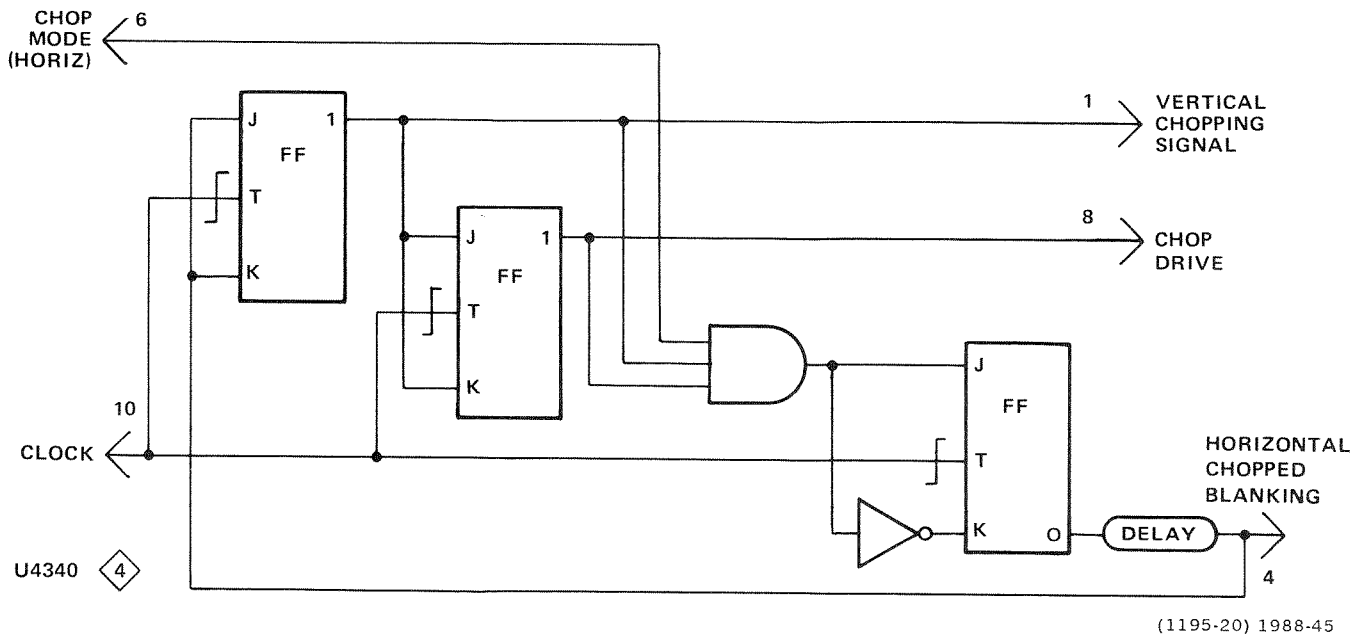

Figure 3-20. Logic diagram of Chop Counter stage.
A logic diagram of the Chop Counter stage is shown in Figure 3-20. Details of operation for the flip-flops (FF) are shown in Table 3-1 at the front of this section. Use the waveforms given in Figure 3-19B along with this diagram.